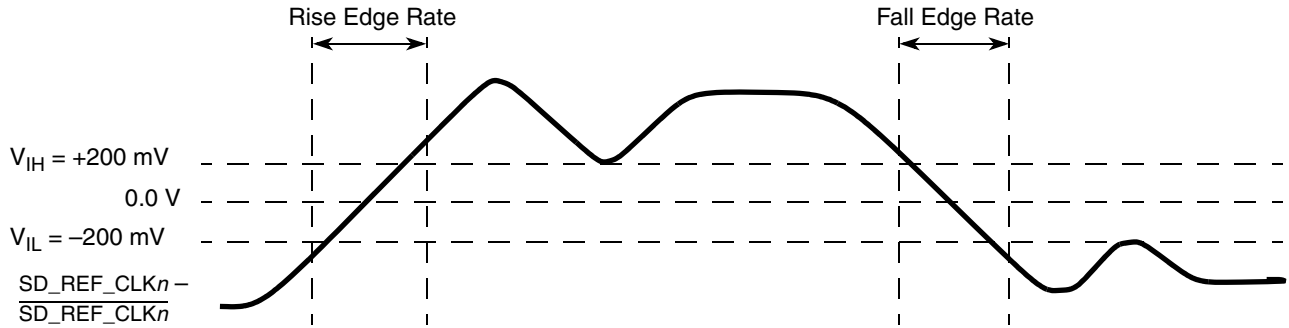

Figure 37. Differential Measurement Points for Rise and Fall Time
only one signal trace curve in a differential waveform. The voltage represented in the differential waveform is not referenced to ground. Refer to Figure 37 as an example for differential waveform.
- Measured from -200 mV to +200 mV on the differential waveform (derived from SD_REF_CLK n minus $\overline{\text{SD_REF_CLK}}_n$). The signal must be monotonic through the measurement region for rise and fall time. The 400 mV measurement window is centered on the differential zero crossing. See Figure 37.